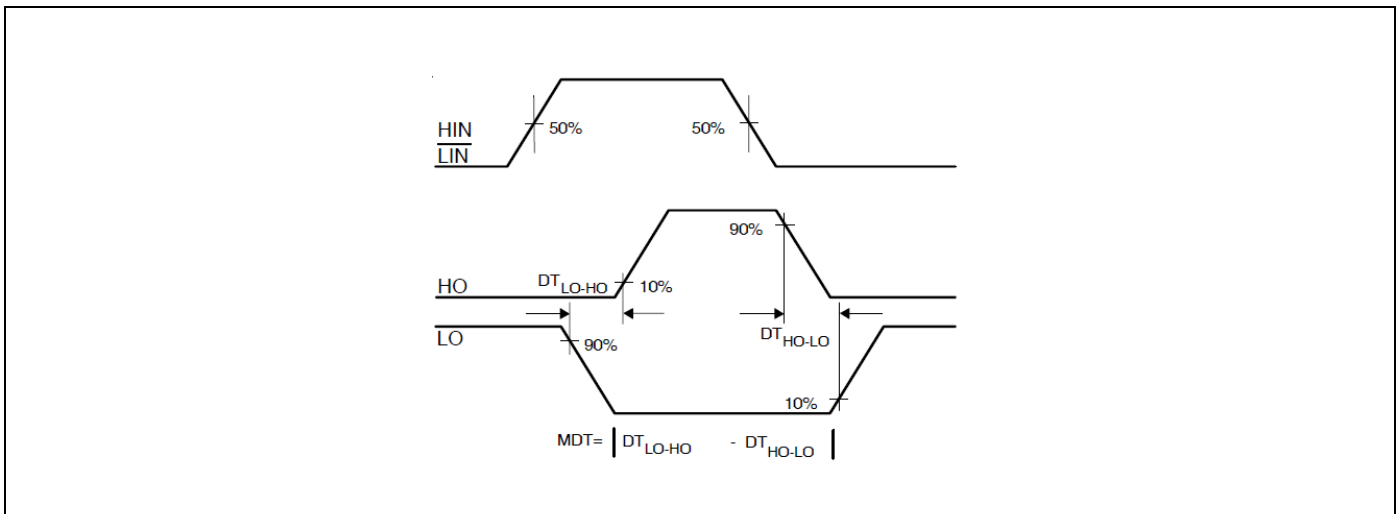

Figure 8 Deadtime matching waveform definition
This family of HVICs features integrated deadtime protection circuitry. The deadtime is fixed for 2ED2108S06F; is programmable for 2ED21084S06J, it is greater design flexibility. The deadtime feature inserts a time period (a minimum deadtime) in which both the high- and low-side power switches are held off; this is done to ensure that the power switch being turned off has fully turned off before the second power switch is turned on. This minimum deadtime is automatically inserted whenever the external deadtime is shorter than internal deadtime; external deadtimes larger than internal deadtime are not modified by the gate driver. Figure 8 illustrates the deadtime period and the relationship between the output gate signals.
The deadtime circuitry of 2ED2108 (4) S06F (J) is matched with respect to the high- and low-side outputs. Figure 8 defines the two deadtime parameters (i.e., DT_{LO-HO} and DT_{HO-LO}); the deadtime matching parameter (MDT) associated with the 2ED2108 (4) S06F (J) specifies the maximum difference between DT_{LO-HO} and DT_{HO-LO} .